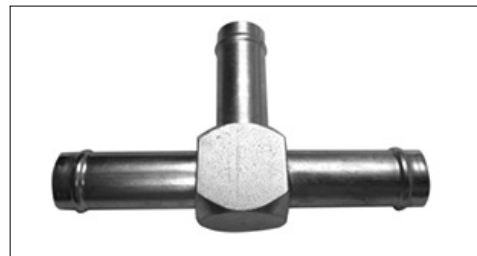

Figure 22: 5/8" x 5/8" x 5/8" tee, P/N 103429DAV
Step 2: Using heater hose pliers, clamp off both sides of the intended tee location. Cut the 5/8" ID hose. Install a 5/8" x 5/8" x 5/8" tee (Figure 22) into the cab heater pressure hose.